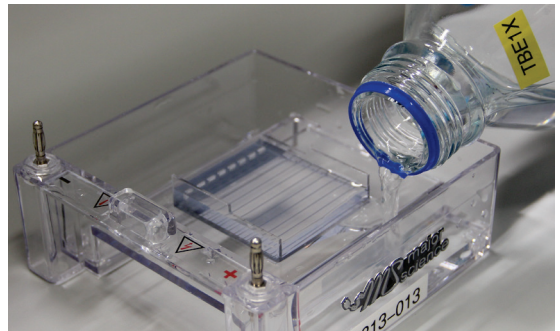

Fig. 9
3. Pour TBE buffer into the tank until the gel is completely covered (Fig. 9).